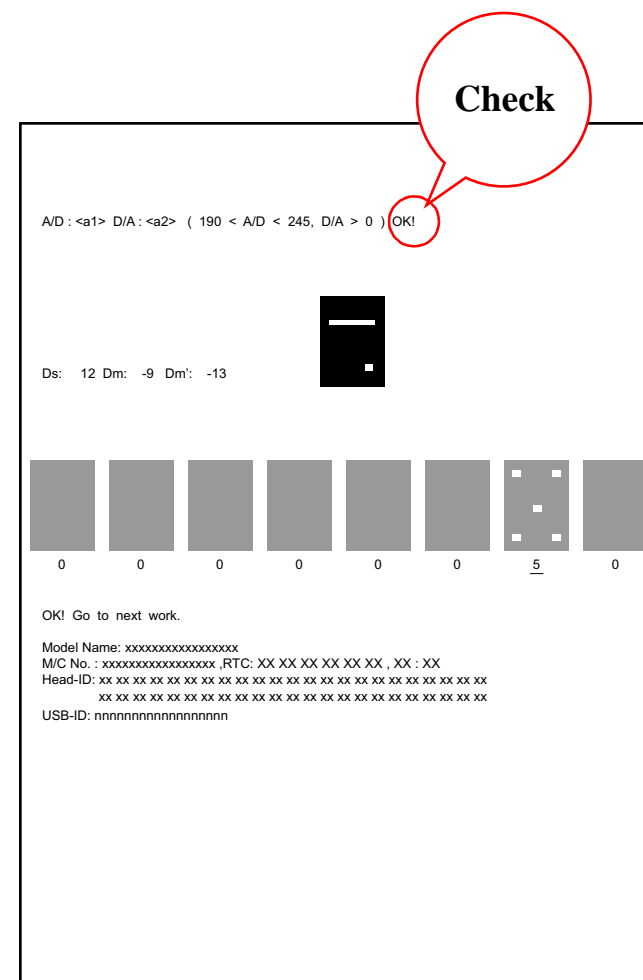

Figure 5-61. Adjustment Pattern
- See the printed pattern and check the pattern in the position shown in the Figure 5-61.